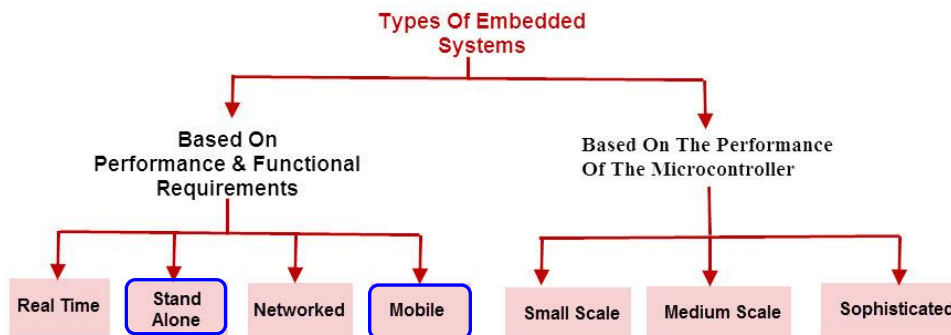

Figure 2(a) Types of Embedded System.
- a) Describe the following embedded systems types as shown in Figure 2(a) by giving examples for each embedded system.
- b) Identify and describe the function of the following blocks labelled in Figure 2(b).
- i) Label (A)